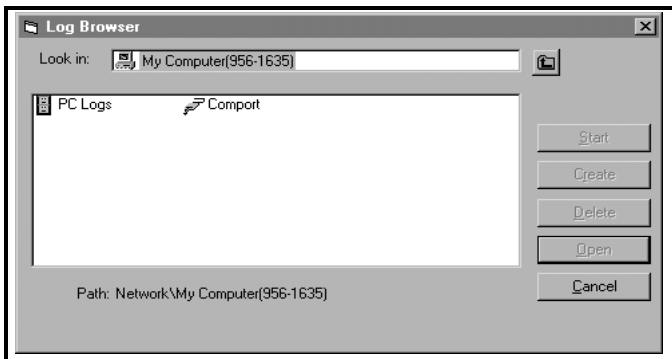

Figure 6-14: Communication Port Selection
- a. Double click on the *computer name* to move to the network level shown in Figure 6-14 below.